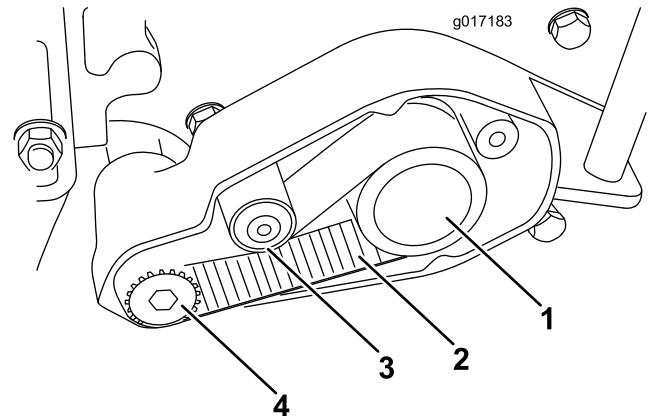

Figure 6
14. Thread the drive pulley onto the left reel shaft extension (Figure 6). Secure the reel from turning with a wood block and torque the pulley to a minimum of 17 ft-lb (23 N-m).
15. Install the toothed drive belt around the drive pulley and driven pulley and under the backside idler (Figure 6).
24. Check the tension of the drive belt by depressing it at the midpoint between the drive pulley and the driven pulley (Figure 6). A force of 5 to 10 lbs. (2 to 4 kgm) should be required to depress the midpoint of the belt 1/4 inch (6 mm). To adjust tension, loosen the backside idler pulley pivot Allen head bolt, pivot the idler to achieve the proper tension, and torque the Allen head bolt to 7 to 10 ft-lbs (9 to 14 N-m).